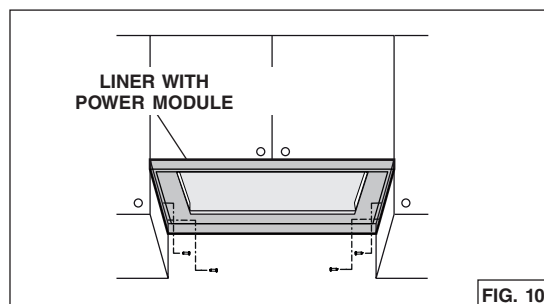

FIG. 10
7. Secure the liner (Fig. 10) using 4 mounting screws (included with the liner).